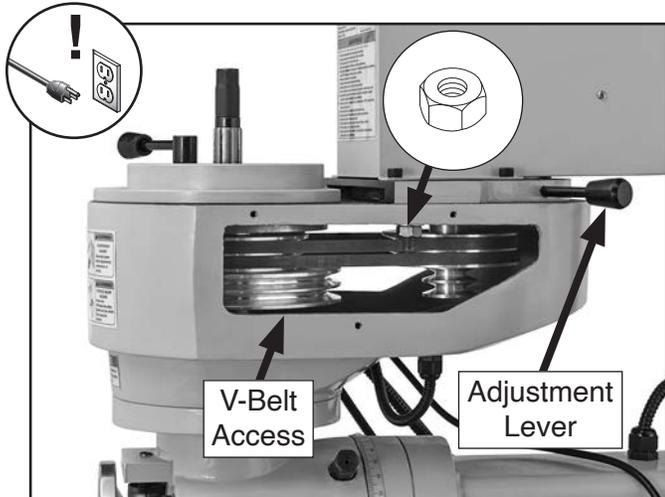

Figure 30. V-belt location.
2. Remove V-belt access cover, loosen hex nut shown in **Figure 30**, and pull adjustment lever forward to release V-belt tension.